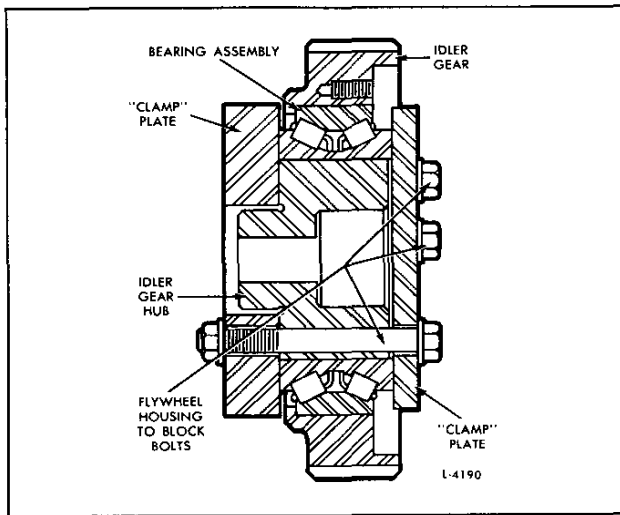

Fig. 12 - Fixture for Testing Bearing Pre-Load
1. Clamp the idler gear between the two plates (Fig. 12). Insert the bolts and tighten the three 3/8"-16 bolts and nuts to 40-45 lb-ft (54-61 N·m) torque.